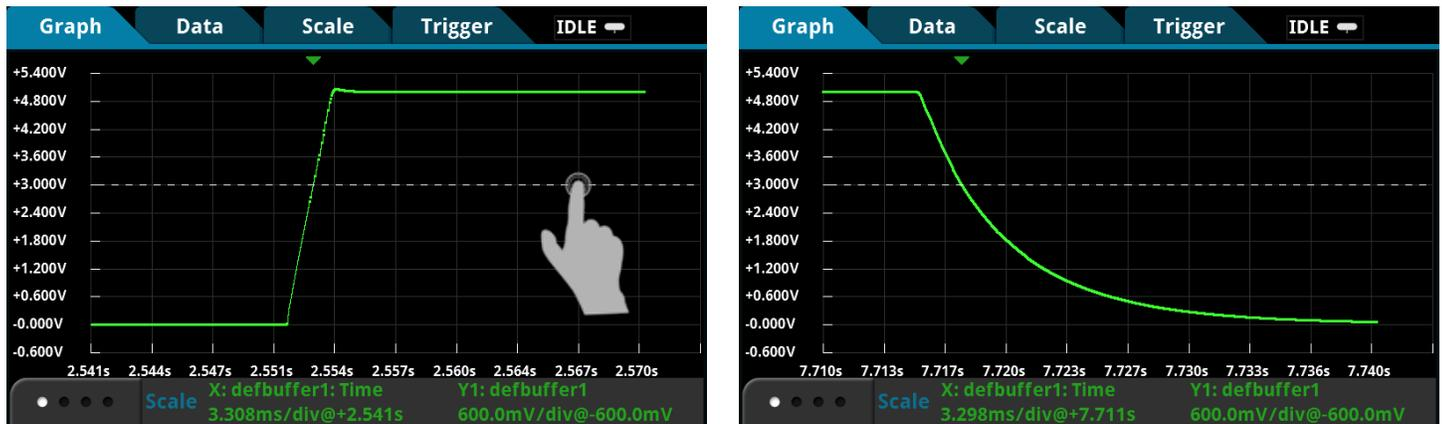
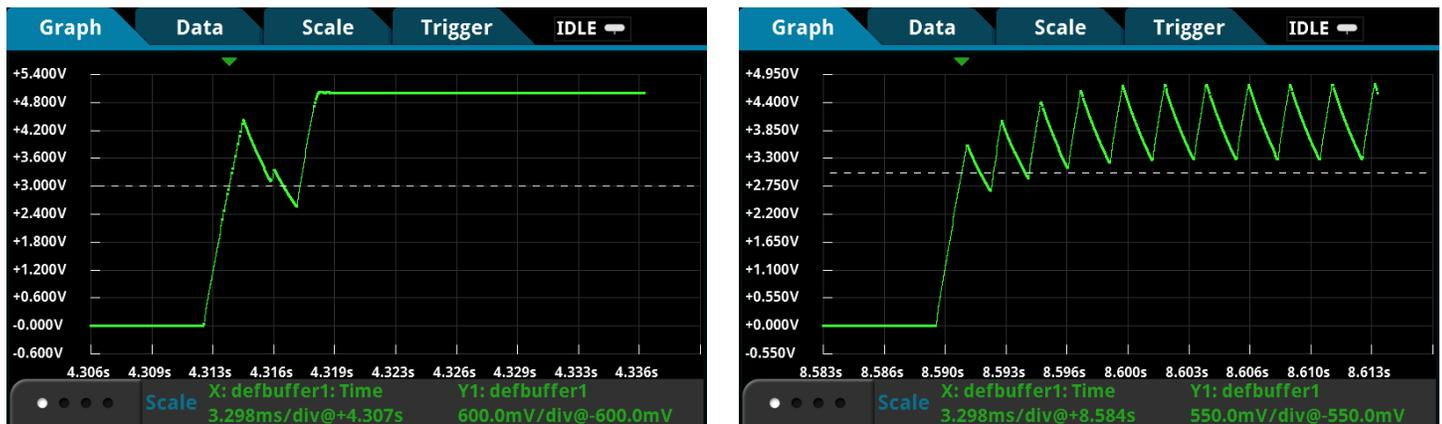

Figure 2. Monotonic power-up (left) and power-down (right) behavior on the buck converter.
Figure 3. Examples of power-up anomalies (temporary output voltage dip on the left and permanent failure to power-up on the right) on the buck converter.
buck converter output voltage crosses the 3V trigger level, the DMM acquires the remaining 50% of readings until it returns to IDLE. **Figures 2** through **4** are a variety of power-up screen captures from the buck converter under different supply conditions. All figures contain both a trigger position indicator (▼) and a trigger level control line. You can slide this dashed line up or down to adjust the trigger level and start another acquisition.
**Figure 2** illustrates clean power-up and power-down events when input and load conditions are optimal. The result is a monotonic rise or fall of the buck converter output. **Figure 3** illustrates possible abnormal power-up behavior from reduced input current limits. The waveform on the left shows a drop in the output voltage as a result of the insufficient in-rush current required by the initial input capacitor. The waveform on the right never recovers and the output oscillates below the expected 5V output value.
The following SCPI command sequence performs the power-up measurement by configuring the sample rate to 1MS/s, the analog rising edge trigger level to 3V, and the buffer size to 10,000 readings using the digitize voltage function on the Model DMM7510. The waveforms produced will be similar to those shown in *Figures 2, 3 or 4*, depending on the physical setup.
The TSP script performs a similar power-up measurement as the front panel operation on the Model DMM7510. And it generates waveforms similar to those illustrated in *Figures 2 to 4*, depending on the physical setup.